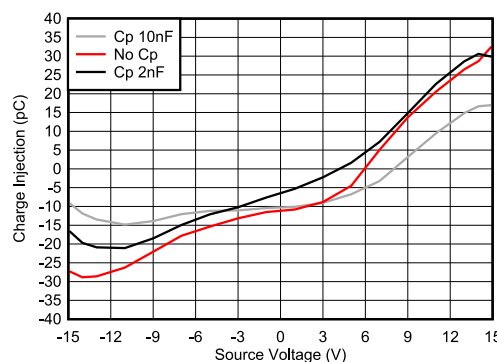

Figure 7-3. Charge Injection Compensation
The TMUX6219 contains specialized architecture to reduce charge injection on the source (Sx). To further reduce charge injection in a sensitive application, a compensation capacitor (C_p) can be added on the drain (D). This will ensure that excess charge from the switch transition will be pushed into the compensation capacitor on the drain (D) instead of the source (Sx). As a general rule, C_p should be 20× larger than the equivalent load capacitance on the source (Sx). Figure 7-3 shows charge injection variation with source voltage with different compensation capacitors on the Drain side.